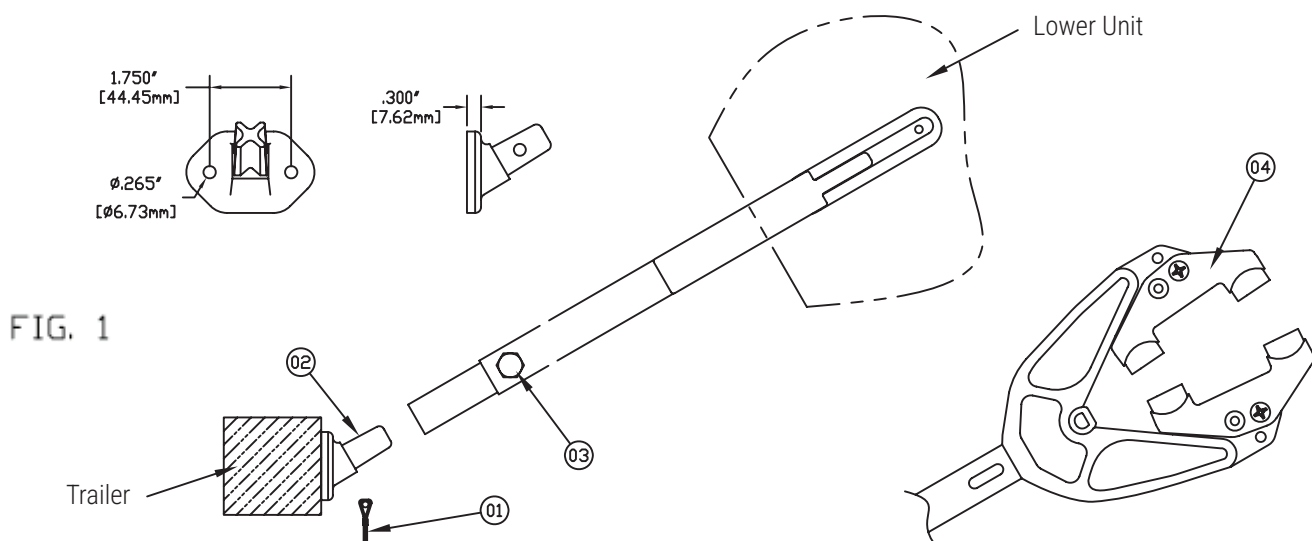

FIG. 1
1. After removing your Springfield Marine Guardian Motor Support from its packaging pull out the safety pin (FIG1, 1) and remove the bolt on "T" brace (FIG1, 2).
4. Remove the bolt and nut that secure the inner support tube to the outer support tube (FIG1, 3). Place the inner tube of the Motor Support over the "T" brace and reinsert safety pin.
5. Place the "Y" shaped support yoke (FIG1, 4) so that the composite pads rest against the lower unit. Line up holes in the inner and outer support tubes and reinstall the bolt and nut.